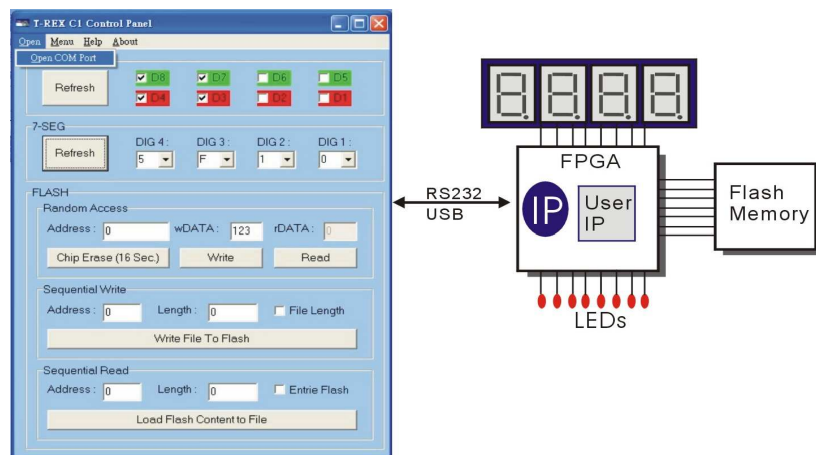

Figure 6.1. TREX Control Panel Concept Diagram
1. Figure 6.1 shows the concept of the TREX Control Panel. Users use Window GUI to issue commands via the USB link to the FPGA. We provide an IP to handle all the requests and perform data transferring between PC and the TREX board.